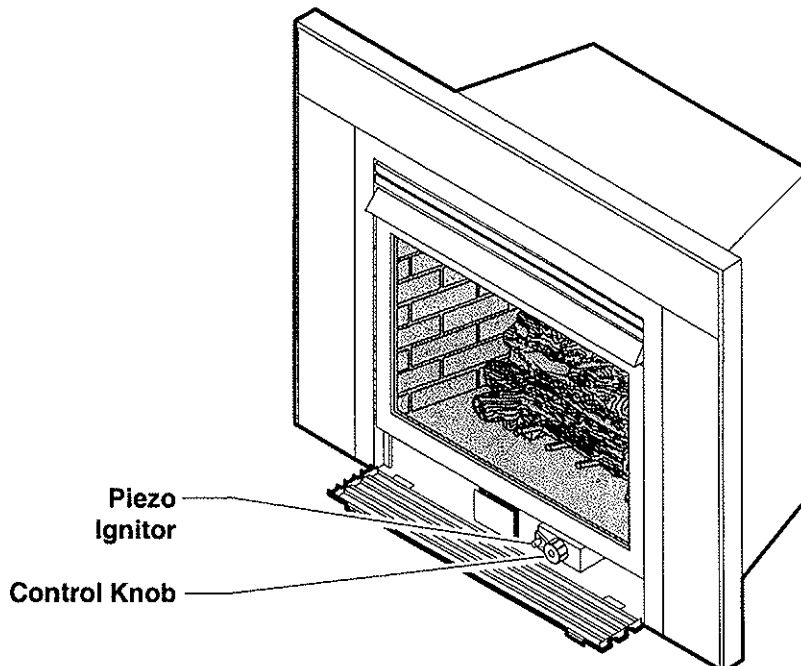

Figure 22: Location of Piezo Ignitor & Control Knob
4. Refer to *Figure 22* for the location of the piezo ignitor and control knob. Turn control knob clockwise  to the OFF position.